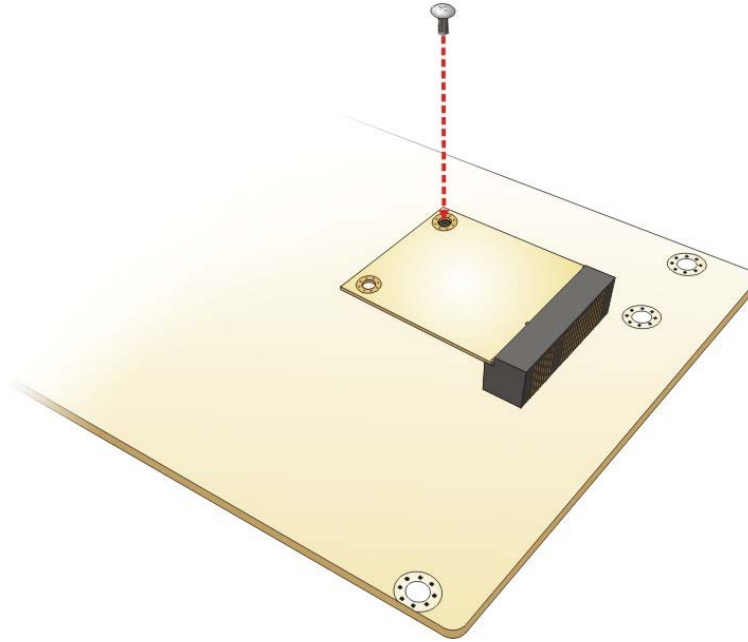

Figure 4-4: Securing the iRIS-1010 Module
Step 4: **Secure the iRIS-1010 module.** Secure the iRIS-1010 module with the retention screw previously removed (**Figure 4-4**).